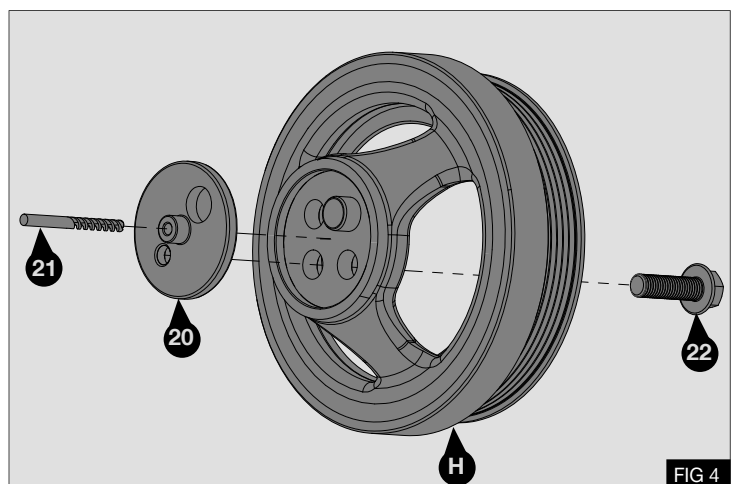

FIG 4
5. Secure the drilling jig (20) to the rear of the original crank pulley (H) using bolt (22). Carefully drill through the centre of the crank pulley (H) from the rear using the supplied drill bit (21). Ensure that the drill remains perpendicular to the pulley face whilst drilling - Fig 4